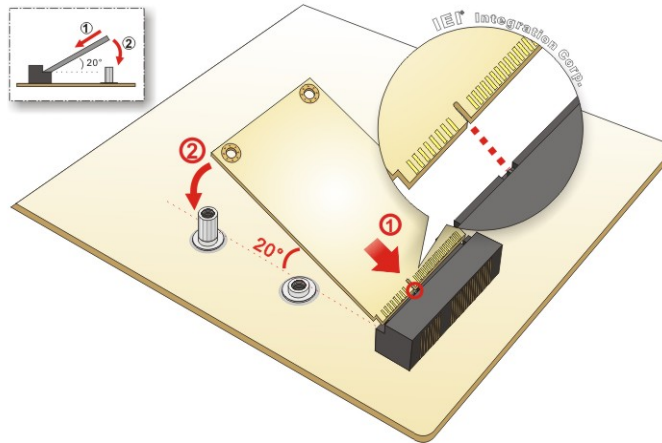

Figure 3-8: Inserting the mSATA Module into the Slot at an Angle
Step 4: Insert into the socket at an angle. Line up the notch on the card with the notch on the slot. Slide the mSATA module into the socket at an angle of about 20° (Figure 3-8).